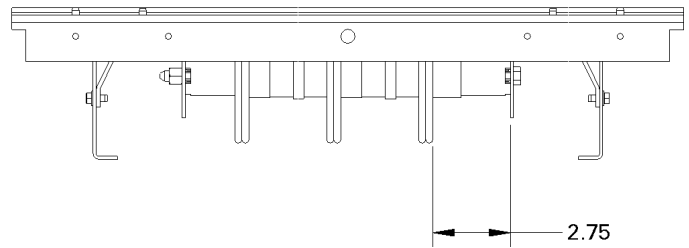

Figure 3. Top view of a bolt-on interior.
- *Bolt-on and single bus of plug-in assemblies, switchboard panels, and powerpanels.* Before installing, locate the side of the panel interior for which the dimension from the nearest vertical bus face to the inner face of the bus support rail is 2.75 inches, as indicated in Figure 3. The cable terminals will be mounted on this side of the bus.